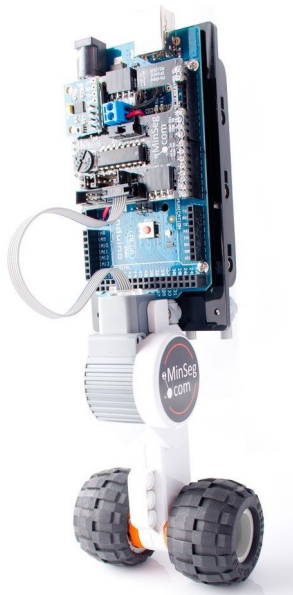

Figure 1 The MinSeg™ balancing robot.
This laboratory session teaches the student how to develop *Kalman filters* and *linear-quadratic* (LQ) controllers. The control structure is developed and applied to the MinSeg™ balancing robot, see Figure 1.